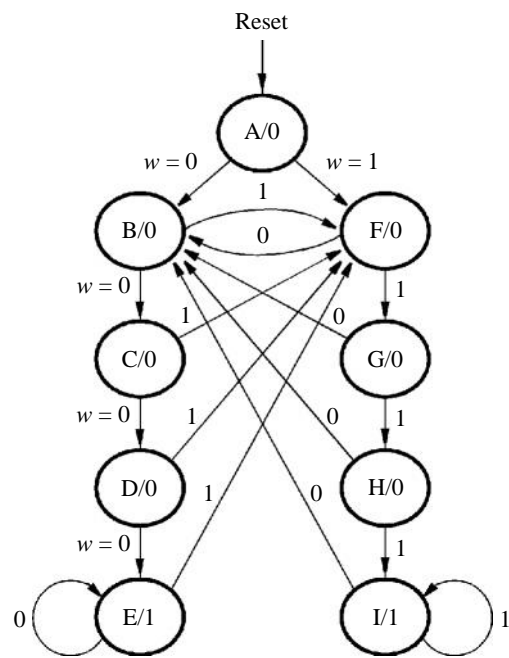

Figure 2. A state diagram for the FSM.
A state diagram for this FSM is shown in Figure 2. For this part you are to manually derive an FSM circuit that implements this state diagram, including the logic expressions that feed each of the state flip-flops. To implement the FSM use nine state flip-flops called y_8, \dots, y_0 and the one-hot state assignment given in Table 1.
For this part you are to write Verilog code for the FSM in Figure 2. Describe the state table for the FSM by using a Verilog **case** statement in an **always** block, and use another **always** block to instantiate the state flip-flops. You can use a third **always** block or simple assignment statements to specify the output z . To implement the FSM, use four state flip-flops y_3, \dots, y_0 and binary codes, as shown in Table 3.
4. To examine the circuit produced by Quartus II open the RTL Viewer tool. Double-click on the box shown in the circuit that represents the finite state machine, and determine whether the state diagram that it shows properly corresponds to the one in Figure 2. To see the state codes used for your FSM, open the **Compilation Report**, select the **Analysis and Synthesis** section of the report, and click on **State Machines**.